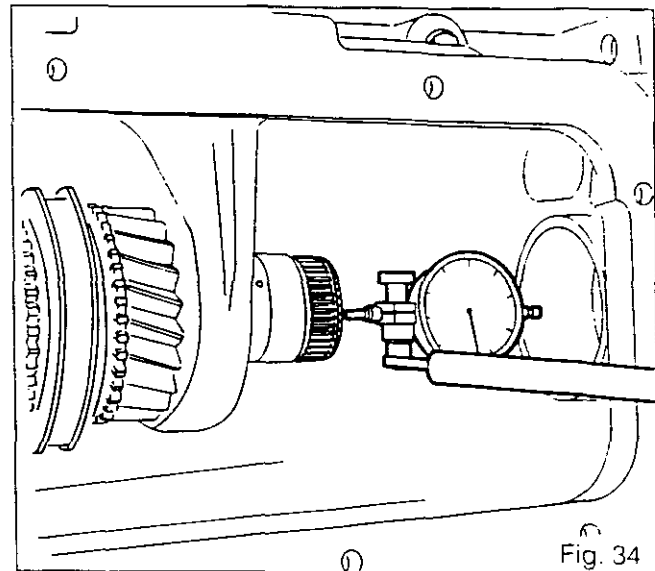

Fig. 34
99. Position a dial gauge pointer at the end of the shaft (Fig.34).